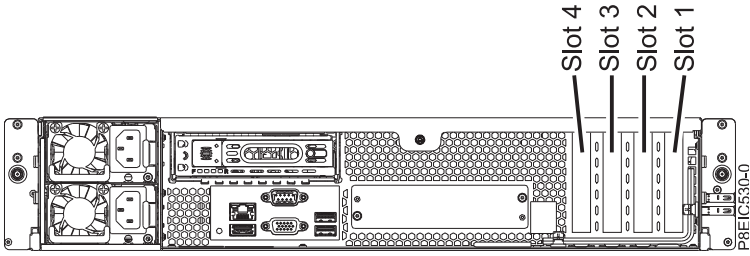

Figure 33. 8348-21C PCIe adapter slots
2. Pick the correct slot for the PCIe adapter. See Figure 33 on page 56.